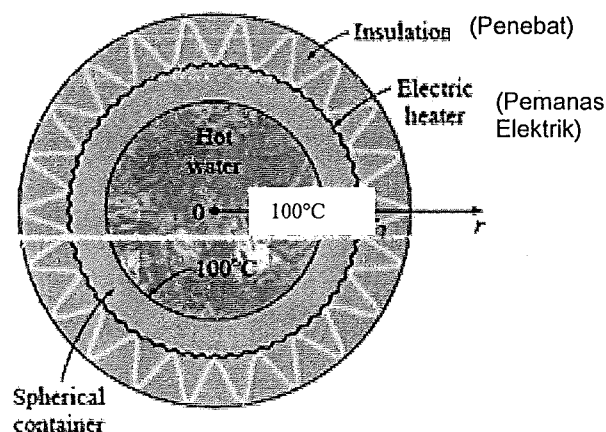

Figure 3: Water pipe with strip heater
- [b] In a food processing facility, a spherical container of inner radius, $r_1=30$ cm, outer radius $r_2 = 60$ cm, and thermal conductivity $k = 3.5 \text{ W.m}^{-1} \cdot \text{°C}^{-1}$ is used to store hot water and to keep it at 100°C at all times. To accomplish this, the outer surface of the container is wrapped with a 600-W electric strip heater and then insulated like in Figure 3 below. The temperature of the inner surface of the container is observed to be nearly 100°C at all times. Assuming 10% of the heat generated in the heater is lost through the insulation, calculate the following heat transport properties. It is given, the specific heat of water is $4.185 \text{ kJ/kg}\cdot\text{°C}$